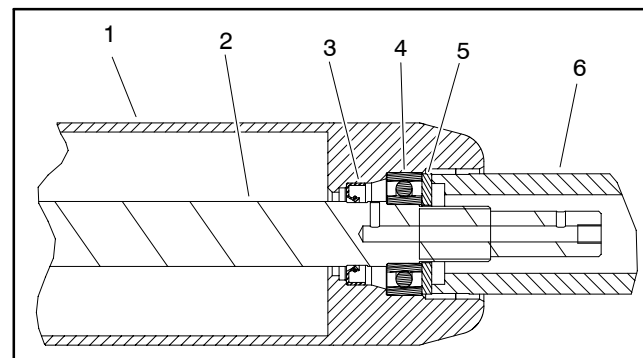

Figure 11
B. Use washer and bearing/outer seal tool (see Special Tools) with a soft face hammer to fully seat bearing (Fig. 11). After bearing installation, make sure that shaft freely rotates and that no binding is detected. If necessary, lightly tap bearing and/or shaft ends to align shaft and bearings. Remove washer from roller.